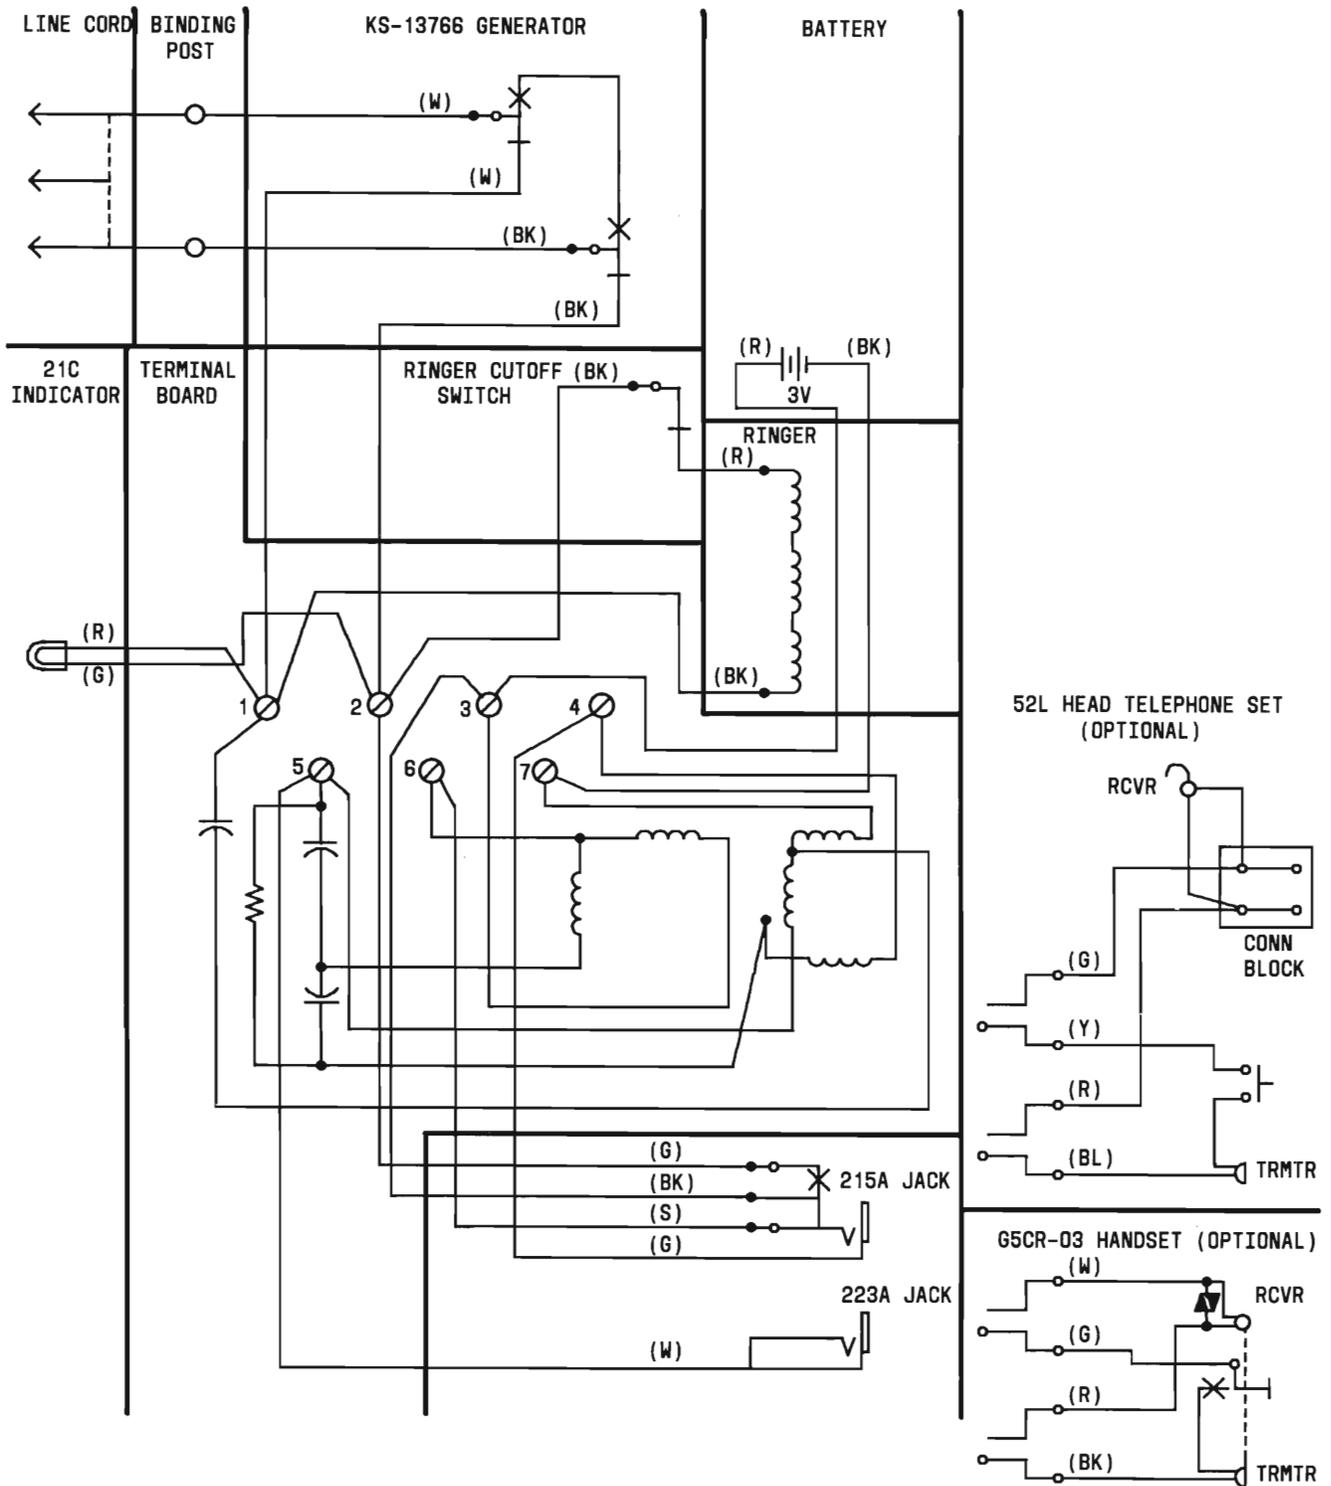

Fig. 5—331B Telephone Set, Wiring Diagram (Manufactured After 4/78)
- Add new Fig. 5
5.01 Connections for the 331B and 331A telephone sets are shown in Fig. 5, 6, and 7, respectively.